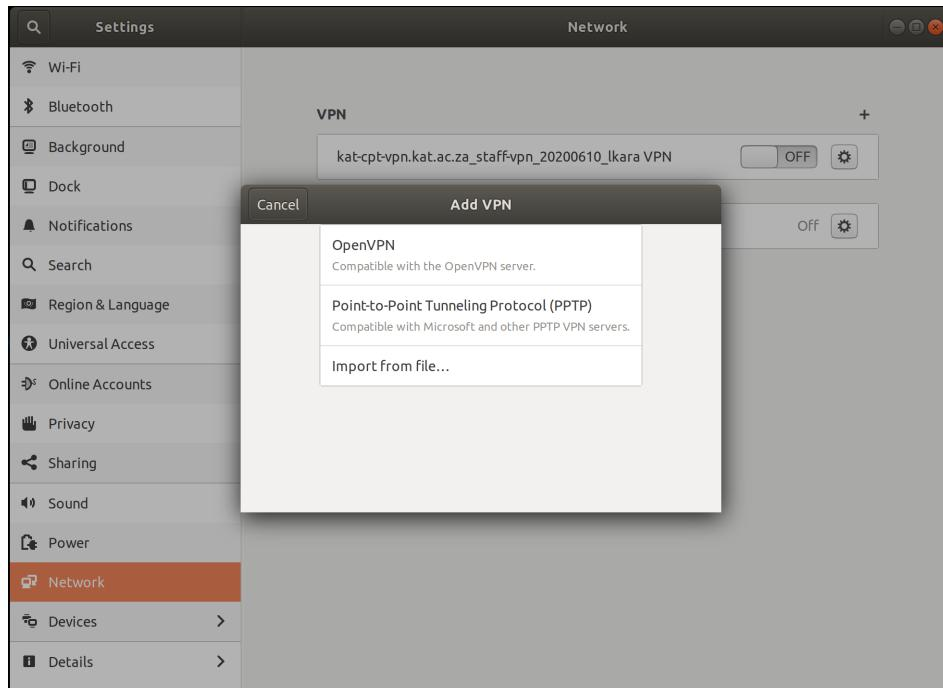

Figure B.2: Linus add vpn dialog box
- Click on the ‘plus’ sign to add VPN as shown in **Figure B.2**